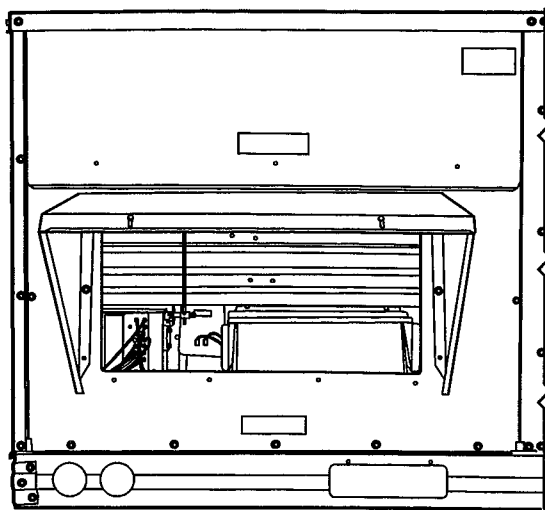

Fig. 23 — Outdoor-Air Hood Installed On Unit
9. Fasten hood top and side plate assembly (Fig. 23) to outdoor-air opening panel with screws provided.